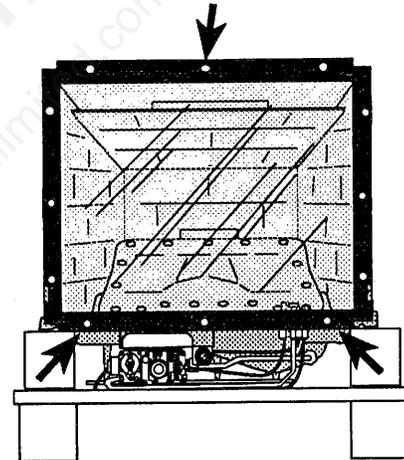

Figure 13. Remove the three frame screws from the locations indicated.
- Use a Phillips screwdriver to remove the three screws from the glass retainer frame. Fig. 13. Keep the screws for later re-installation with the other 9, 1/4-20 x 5/8" phillips screws in the parts bag.